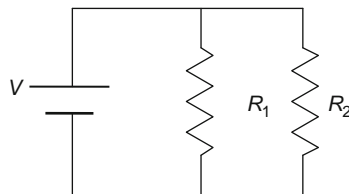

FIGURE 7.7 Parallel Resistor Current Divider
The equivalent resistance of two resistors R_1 and R_2 in parallel in Figure 7.7 is:
25. Determine the currents I_1 and I_2 in the current divider illustrated in Figure 7.7 if $V = 50.3$ volts, $R_1 = 125$. ohms, and $R_2 = 375$. ohms.